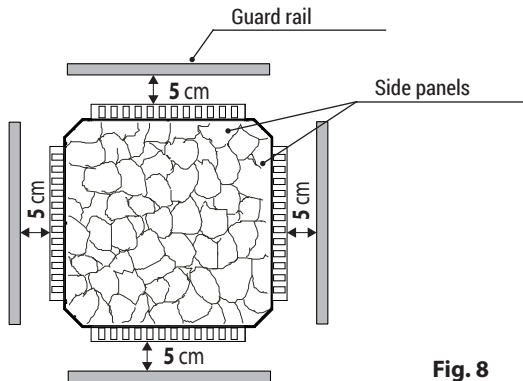

Fig. 8
Side panels are optional accessories and can be mounted if required on 1 - 4 sides. The side panels are not only a decoration element they will also significantly reduce the radiant heat. This allows the reduction of the side safety gap to 5 cm (Fig. 8).
- The safety gaps between the heater and the cabin wall, as well as the protective heater guard rail, the bench and other flammable materials change to 5 cm (see Fig. 8)